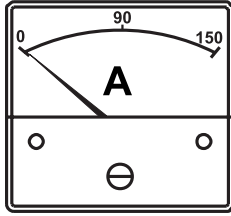

Figure 50. Ammeter (No Load)
8. The **ammeter** (Figure 50) will indicate **zero amps** with no load applied. When a load is applied, the ammeter will indicate the amount of current that the load is drawing from the generator.